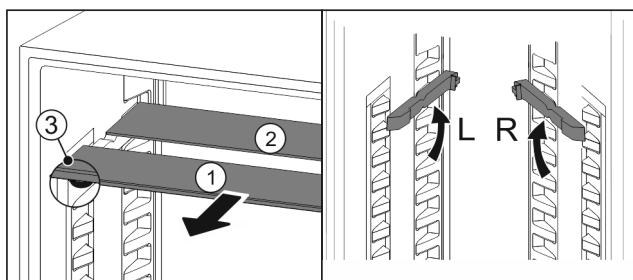

Fig. 28
- Pull the glass panels out Fig. 28 (1) from the front, one at a time.
- ▷ The glass panel *Fig. 28 (1)* and trim strip are at the front.
- ▷ The stops *Fig. 28 (3)* point down.